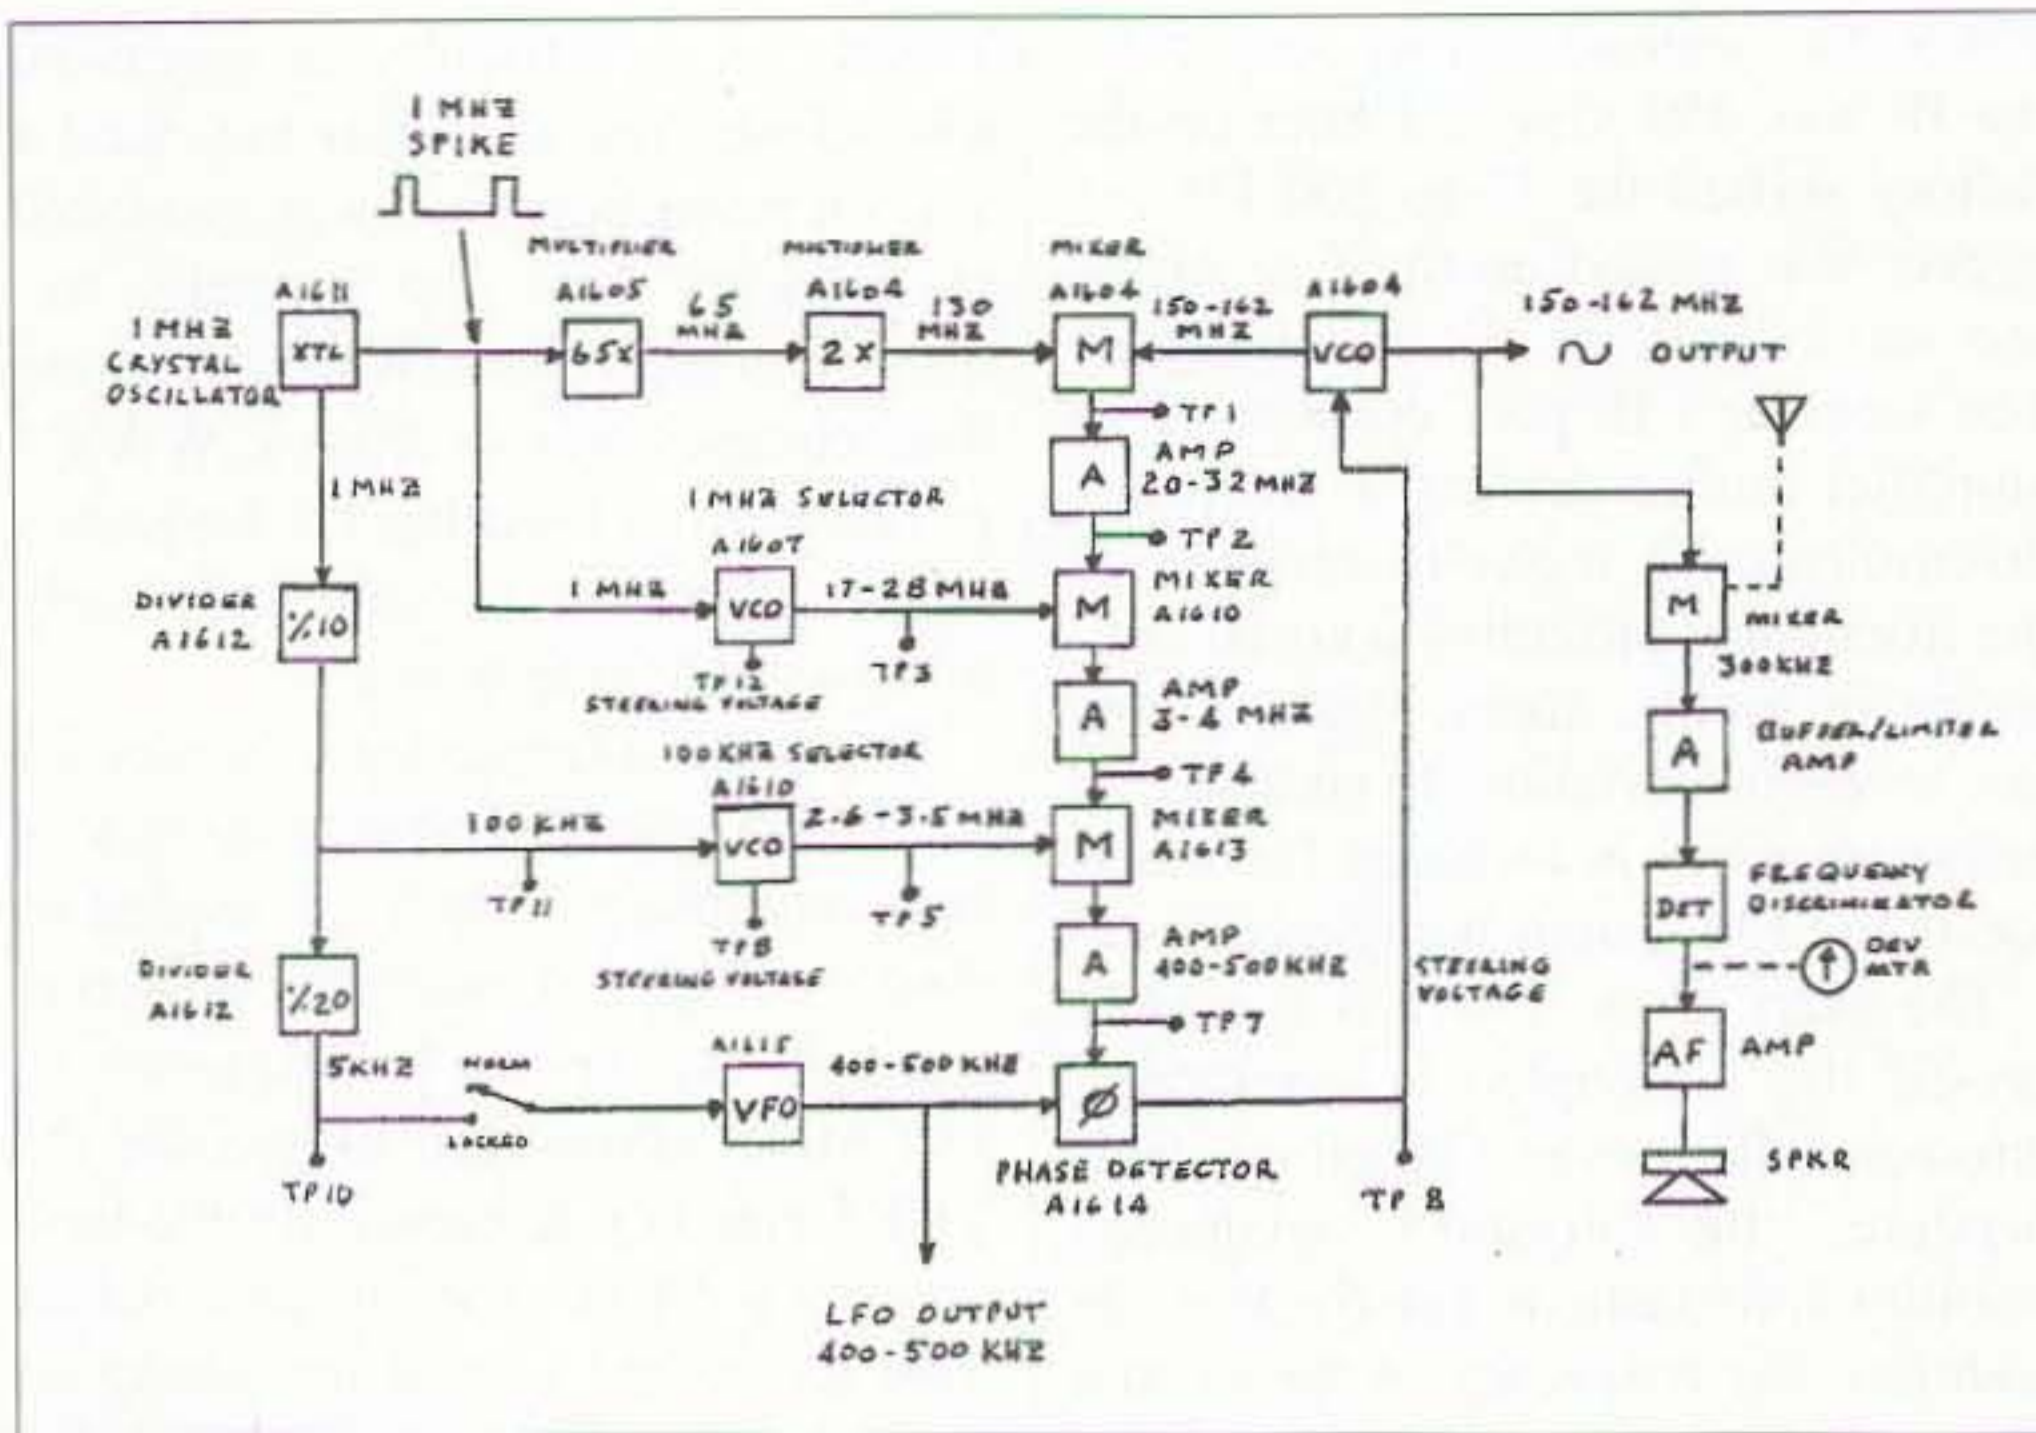

Fig. 1. This is a functional block diagram of the FM-9. Module designation numbers, test points, and frequencies are shown.
reasonably complex and the alignment of the internal circuits is quite critical. True, I didn't know anything about it either, but was willing to study and learn from the device. You must be familiar with phase-locked-loops and how to deal with them when they tend to drop out of lock. **Fig. 1** shows a simplified block diagram of the FM-9 showing the three VCOs and the LFO that are used to make up the signal generation/selection portion of the device. In addition to the generation of a signal, the FM-9 has a built-in low sensitivity receiver. The receiver portion utilizes the FM-9's generated output signal as a local oscillator that mixes with an incoming signal to create an intermediate frequency (IF). As I determined from working with my
To provide a frequency reference for the FM-9, the crystal's frequency is both multiplied as well as divided as shown in **Fig. 1**. A multiplier is used to increase the crystal's frequency to 130 MHz, allowing it to become the VHF frequency reference for the high frequency VCO. The divided output from the crystal is used for setting up the reference frequencies for the low